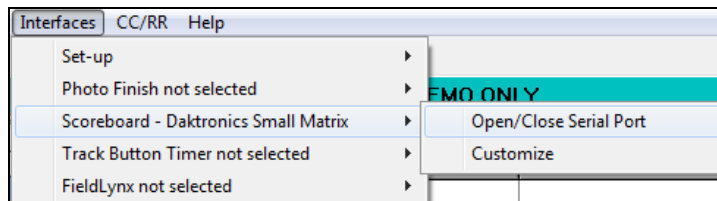

Figure 20: Open/Close Serial Port
5. Go to **Interfaces > Scoreboard - Daktronics Small Matrix > Open/Close Serial Port** (*Figure 20*).